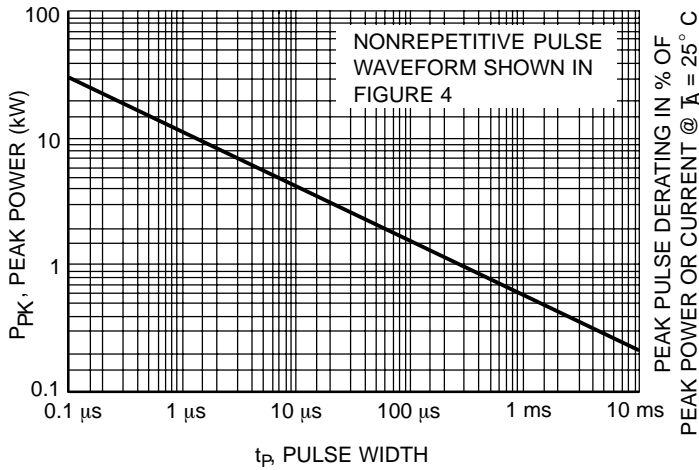

Figure 1. Pulse Rating Curve
5. Surge current waveform per Figure 4 and derate per Figures 1 and 2.
The data of Figure 1 applies for non-repetitive conditions and at a lead temperature of 25°C . If the duty cycle increases, the peak power must be reduced as indicated by the curves of Figure 6. Average power must be derated as the lead or ambient temperature rises above 25°C . The average power derating curve normally given on data sheets may be normalized and used for this purpose.
At first glance the derating curves of Figure 6 appear to be in error as the 10 ms pulse has a higher derating factor than the 10 μs pulse. However, when the derating factor for a given pulse of Figure 6 is multiplied by the peak power value of Figure 1 for the same pulse, the results follow the expected trend.